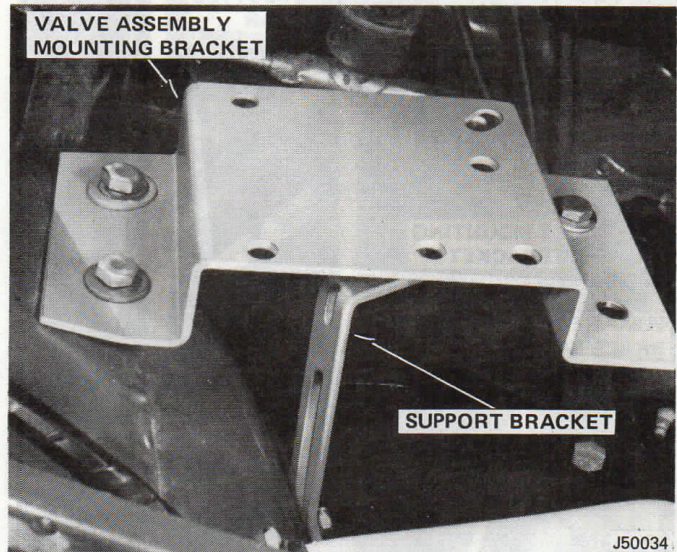

Fig. 1-33 Valve Assembly Bracket Installation
(1) Install valve attaching bracket on left side of engine compartment (fig. 1-33).